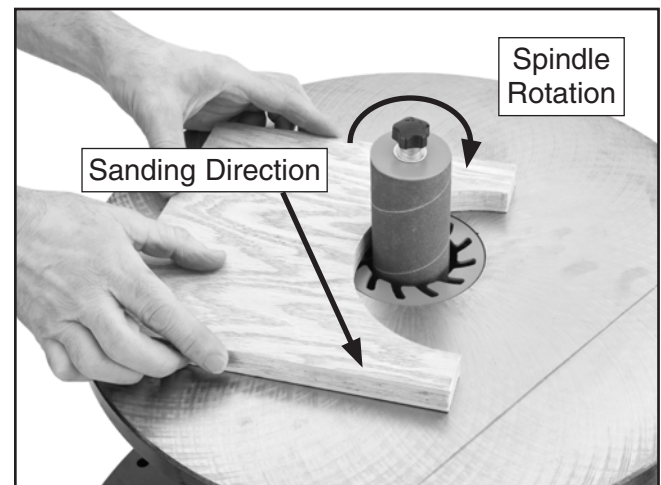

Figure 12. Sanding workpiece.
3. Using both hands, guide the workpiece against the sanding sleeve in a right-to-left manner, as shown in **Figure 12**. DO NOT force the workpiece against the sanding sleeve.